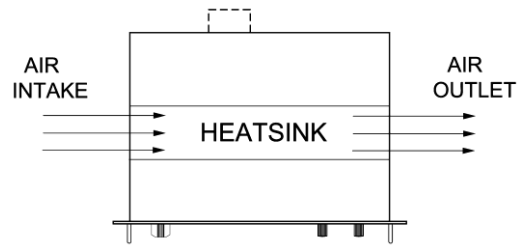

fig 10 -1
- The internal construction of the power supply is such that no dust will reach the sensitive control circuitry, only the heat sink in a tunnel will be cooled by forced air (see fig. 10 - 1)